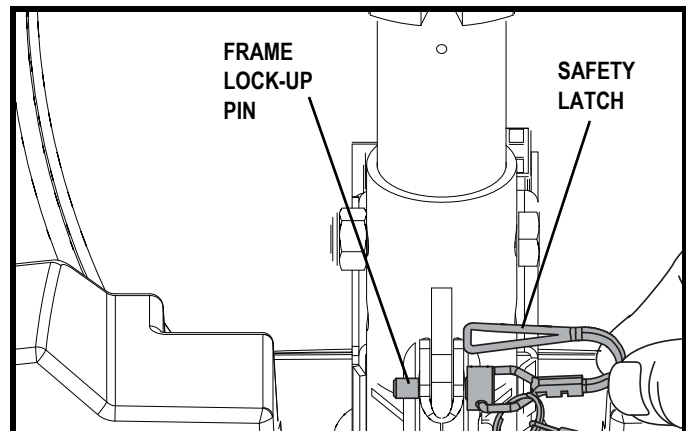

Figure 24. Frame Lock-up Pin
2. Remove the frame lock-up pin. See **figure 24**.